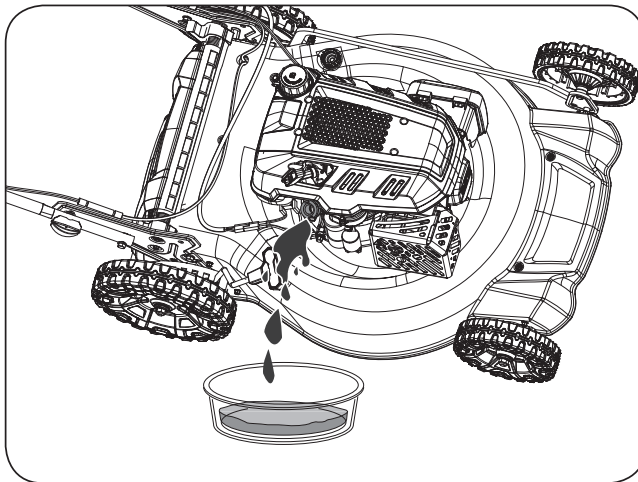

Figure 25
- Tip the machine onto its side (so that the air filter is up) to drain the used oil from the oil-fill tube. (See **Figure 25**)